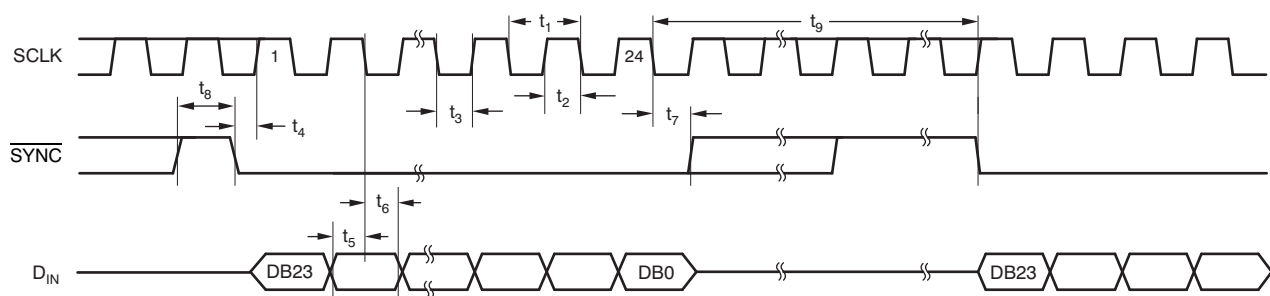

Figure 1. Serial Write Operation
(1) All input signals are specified with $t_R = t_F = 5\text{ ns}$ (10% to 90% of V_{DD}) and timed from a voltage level of $(V_{IL} + V_{IH}) / 2$.
(2) See Figure 1.
(3) Maximum SCLK frequency is 30 MHz at $V_{DD} = 3.6\text{ V to } 5.5\text{ V}$ and 20 MHz at $V_{DD} = 2.7\text{ V to } 3.6\text{ V}$.